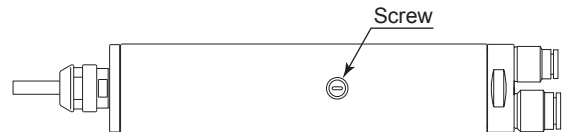

Fig. 17
- ① Turn the ON / OFF Valve of the Air Line Kit to OFF position and stop the air supply.
- ② Remove the Grease Inlet Screw on the Air Motor Spindle with a screw driver (Fig. 17).
- ③ Mount the Grease Nipple on the top of the provided Grease Dispenser. And attach the Grease Nipple on the topped hole removed the thread in the step.
- ④ Holding the Grease Dispenser, turn the ON / OFF Valve of the Air Line Kit to ON position and start the air supply.
- ⑤ Inject grease about 0.5ml .